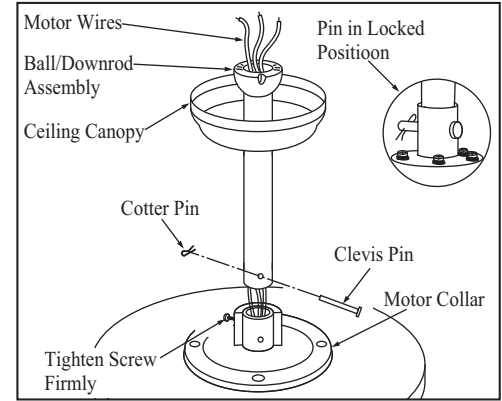

Figure 7
3. Route the wires through the canopy and then through the ball/downrod assembly (Figure. 7).
5. Align the holes at the bottom of the downrod with the holes in the coupling on top of the motor housing (Figure 7). Carefully insert the clevis pin through the holes in the collar and downrod. Be careful not to jam the clevis pin against the wiring inside the downrod. Insert the cotter pin through the hole near the end of the clevis pin until it snaps into its locked position, as noted in the circle inset of Fig. 7.
6. Tighten two set screws on top of the fan motor firmly. (Figure 7)